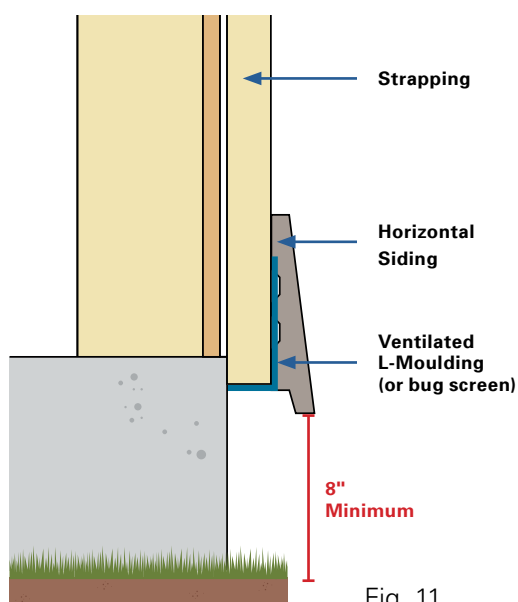

Fig. 11
- Wood siding must be installed a minimum of 8" above the ground to protect from wet soil, rain and moisture. (See Figure 11)